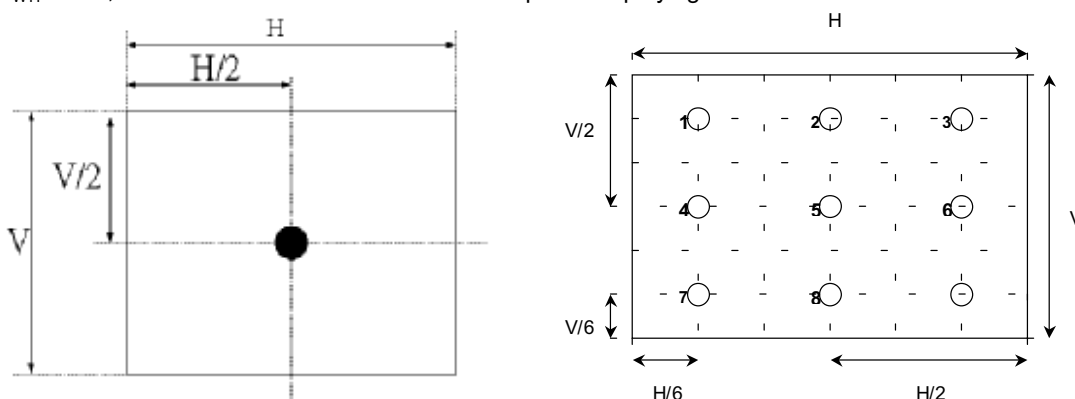

Fig.4-2 Optical measurement point
2. Surface luminance is luminance value at point 1 across the LCD surface 50cm from the surface with all pixels displaying white. From more information see FIG 4-2. When $V_{DD} = 24V$, $I_{DD} = \text{TBD}$.